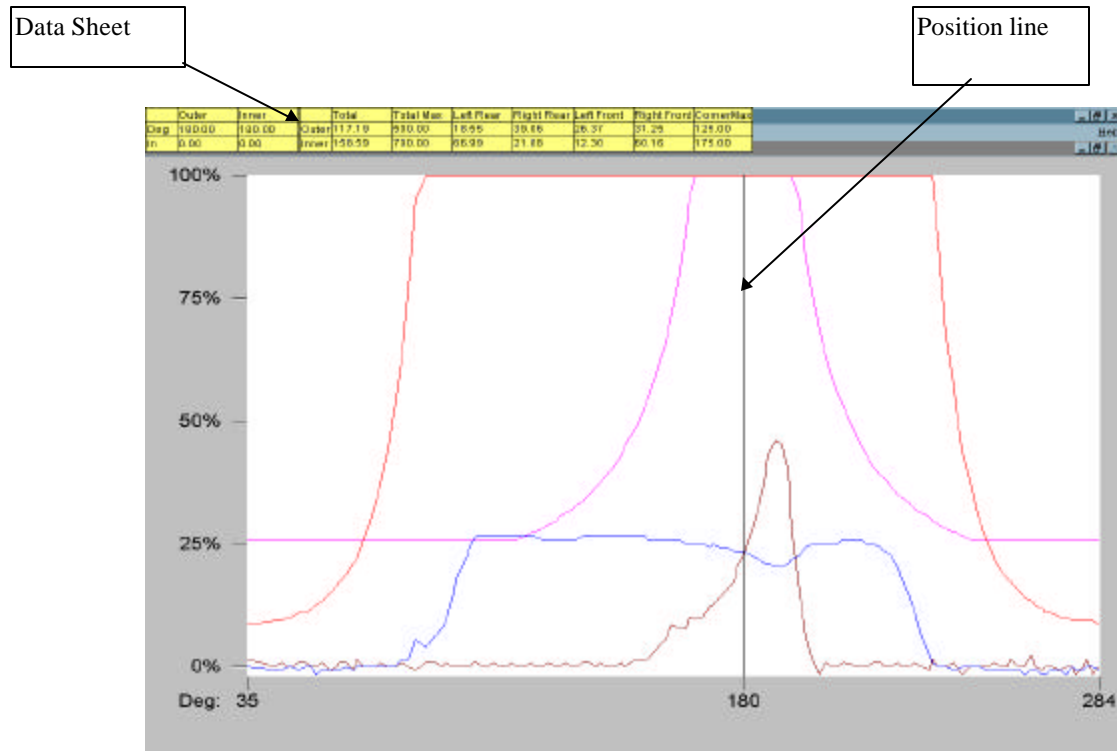

Figure 21: Signature and Tabular Data.
1. You have the option to use the Tabular Data feature and signatures together. This allows you to left mouse click on the signature and move a positioning line to any desired point on the signature to receive data. (See Fig. 21)